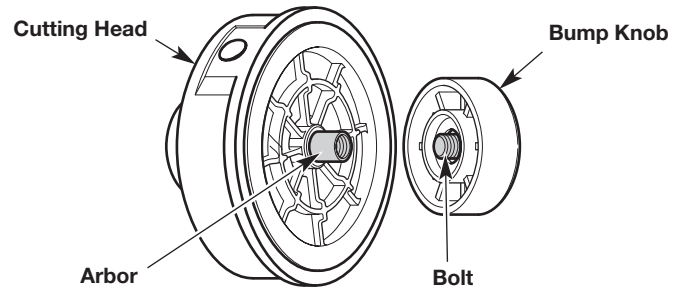

Fig. 17
- Hold the cutting head in place (Fig. 17).
- WC205 / CMXGTAMDA25C:** Turn the bump knob counterclockwise to unscrew it from the cutting head (Fig. 17).
- WS205 / CMXGTAMDAZ25:** Turn the bump knob clockwise to unscrew it from the cutting head (Fig. 17).
- Slide the cutting head off of the arbor (Fig. 17).
- Inspect the bolt inside the bump knob to make sure it moves freely (Fig. 17). Replace the bump knob if it is damaged.
5. While holding the inner reel and outer spool together, slide the cutting head onto the arbor (Fig. 17). Make sure that the cutting head fits securely onto the hexagonal portion of the arbor.
- **WC205 / CMXGTAMDA25C:** Screw the bump knob on clockwise (Fig. 17).
- **WS205 / CMXGTAMDAZ25:** Screw the bump knob on counterclockwise (Fig. 17).